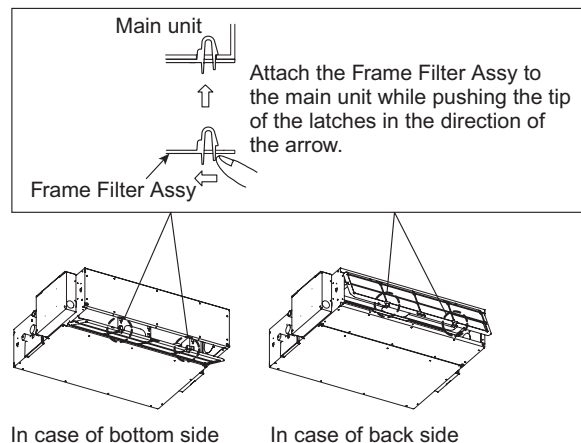

Fig. 2-129
- (3) Attach the frame filter assy (supplied) in the manner shown in the diagram. (Fig. 2-129)